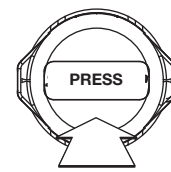

Fig. 22
5. Replace the bump cap by aligning the tabs of the bump cap with the tab lock windows of the outer spool and press down firmly until both tabs snap back into place. (Fig. 22)